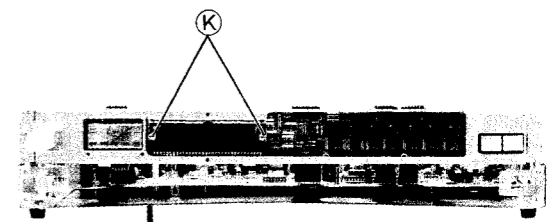

Figure 11
5. Remove two hex nuts (K) holding the display P.C. Board on the front chassis, then display P.C. Board can be removed out. (See Figure 11).